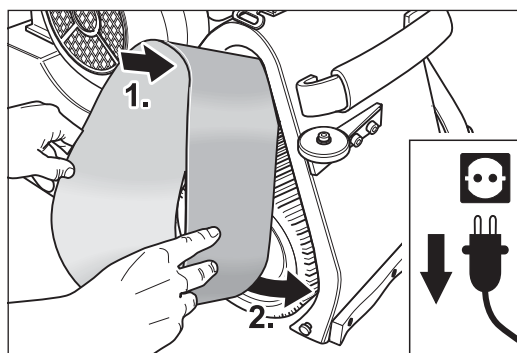
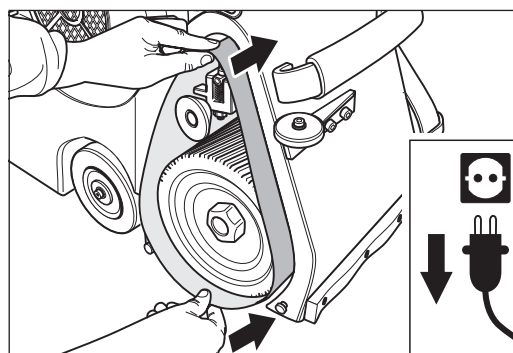

Fig. 9 Position the sanding belt on the tensioning roller of the drive unit.
Fig. 10 Push the sanding belt far enough over the sanding drum and tensioning roller so that the sanding drum is fully covered by the sanding belt.
- 10 Position the sanding belt on the tensioning roller of the drive unit (Fig. 9) and push it over the tensioning roller and the sanding drum (Fig. 10).